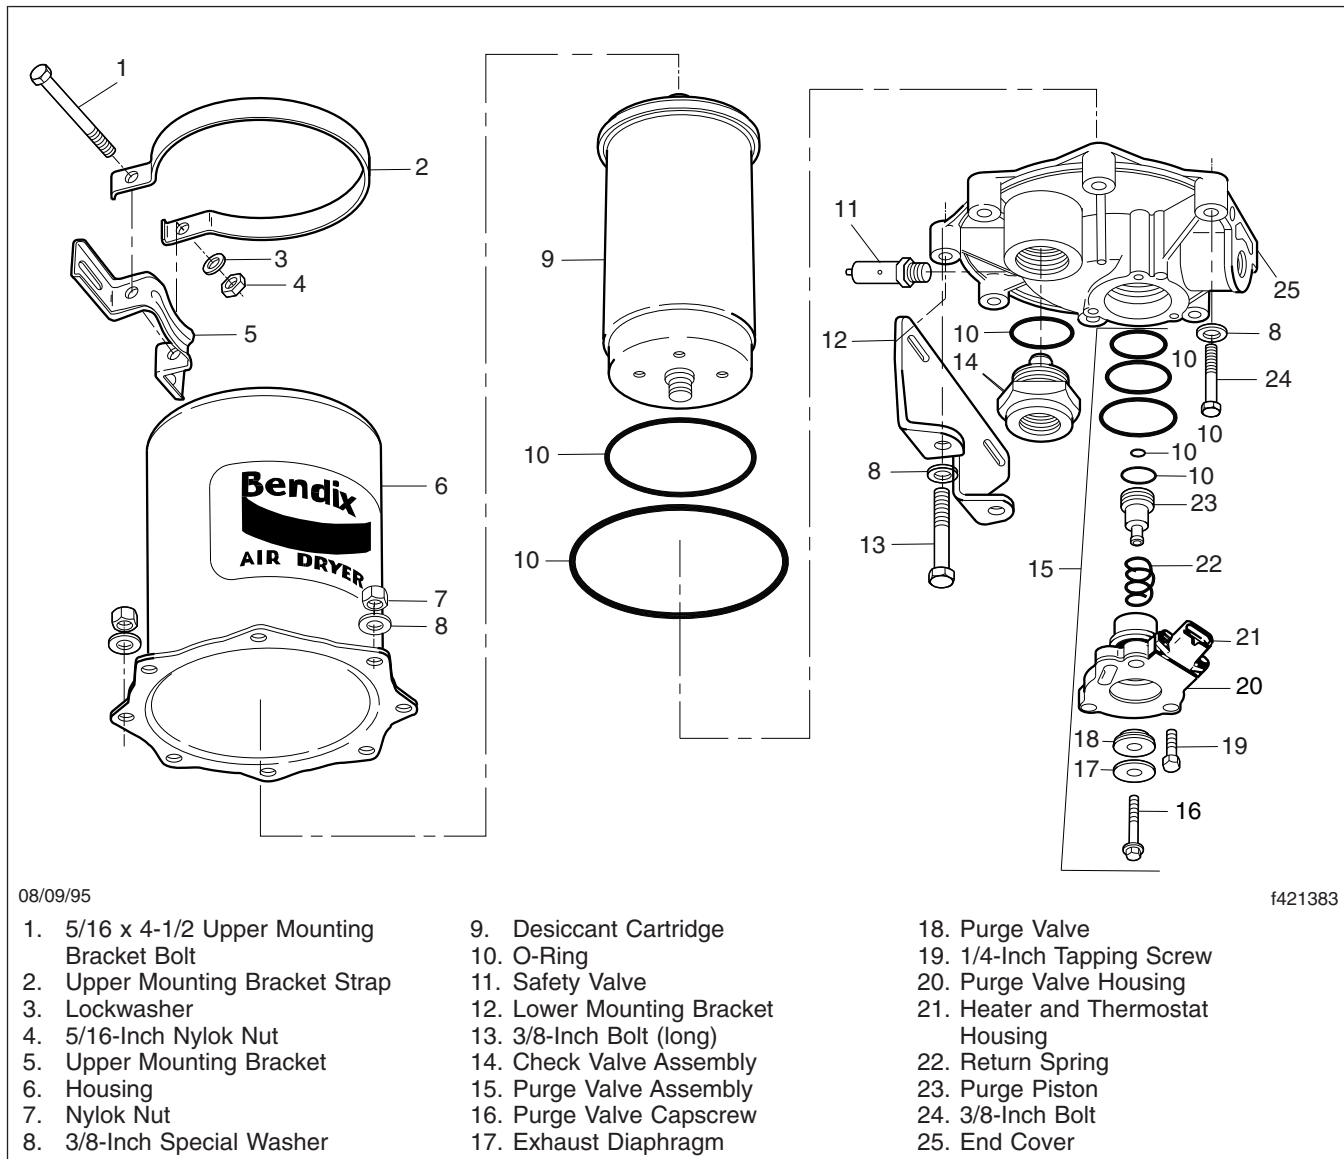

Fig. 1, AD-9 Air Dryer (exploded view)
8. Place the air dryer on a bench and remove the remaining 6 bolts, 12 washers, 6 Nylok nuts, and the air dryer housing. See Fig. 1. Discard the Nylok nuts. Remove the end-cover-to-housing O-ring.